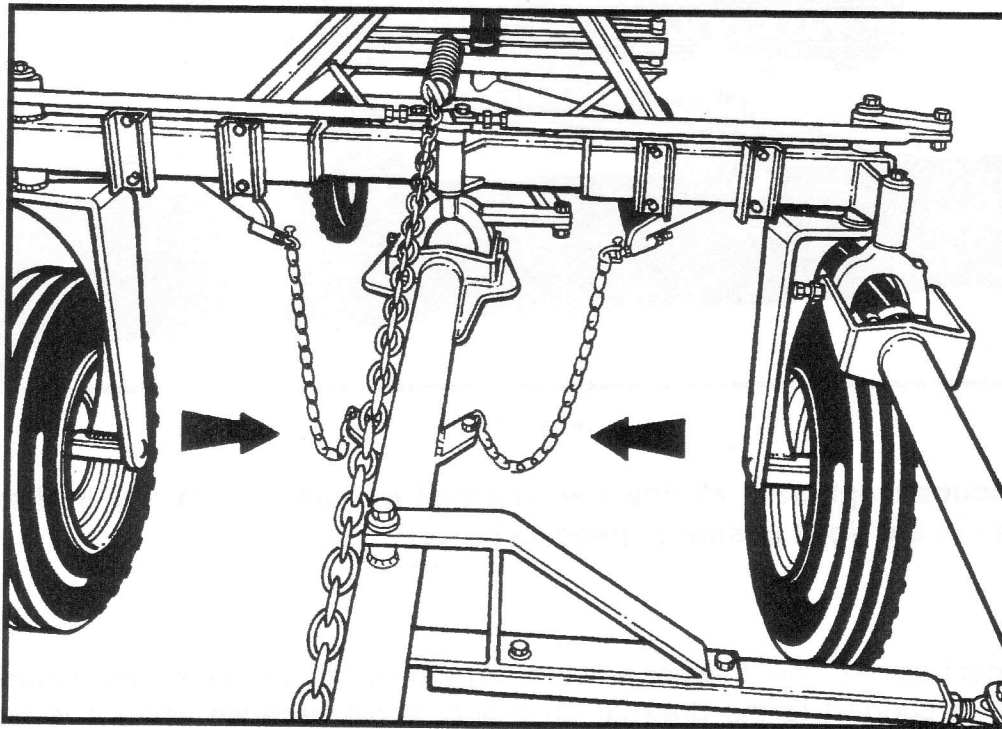

Fig 19
- 6: Ensure check chains (fig 19) are correctly adjusted to take equal tension on both drawbars.